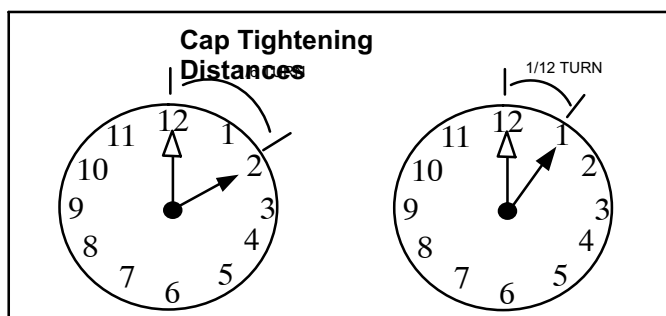

FIGURE 13
- *Without Torque Wrench:* Finger tighten and use an appropriately sized wrench to turn an additional 1/6 turn clockwise as illustrated in figure 13.